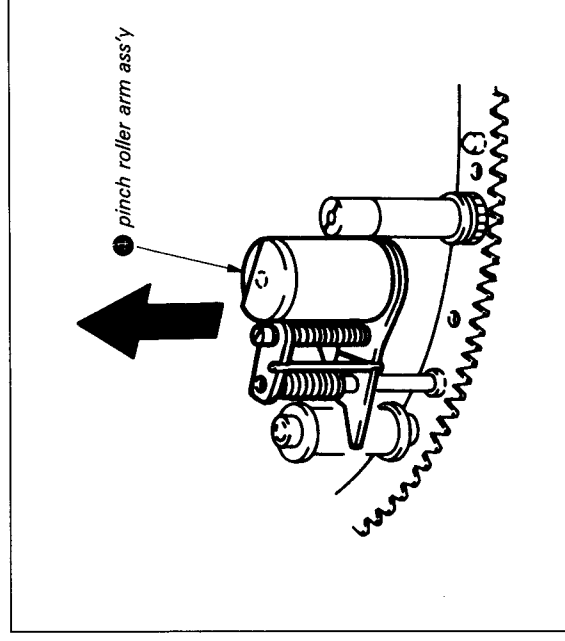

Fig. 7-17.
- 5) Remove pinch roller arm assembly ④ in the direction of arrow. (See Fig. 7-17.)